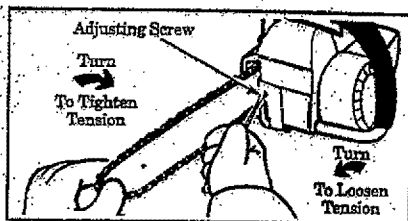

Figure 11
1. Lift up the tip of the guide bar and turn the adjusting screw clockwise until the chain does not sag beneath the guide bar. Figure 11.